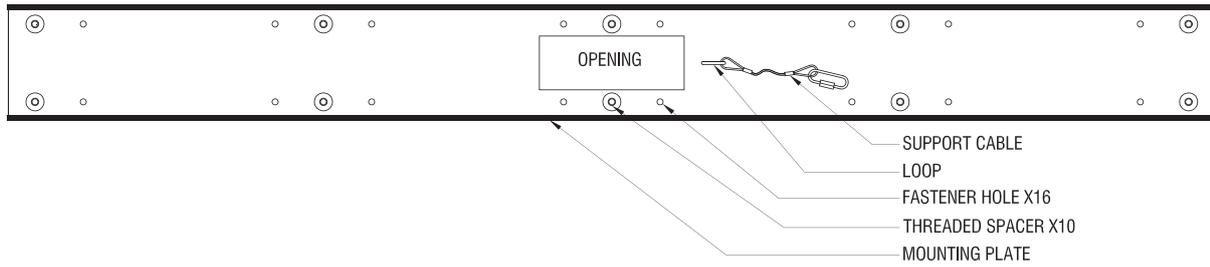

Figure 2. Install Mounting Plate
- 5 Position the mounting plate on the ceiling such that the recessed electrical box is accessible through the rectangular opening in the mounting plate (Figure 2). Fastener holes are provided - a licensed contractor and/or licensed structural engineer should design and approve/confirm that adequate structure is being provided to safely support this light fixture as well as specify appropriate fasteners for the ceiling/structure.